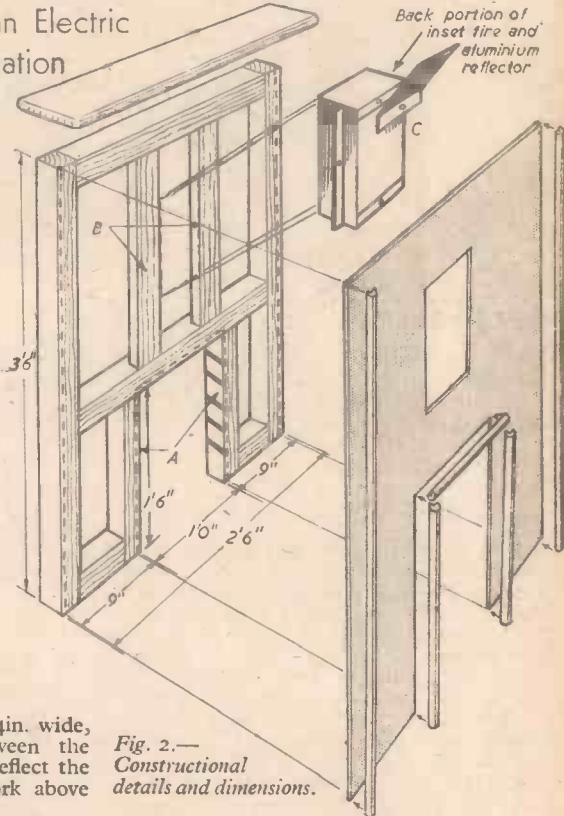

Fig. 2.—Constructional details and dimensions.
The fireplace itself consists of a framework of 2in. x 2in., cut to make up the dimensions shown in Fig. 2. The pieces are screwed together with 3in. x 10 screws as shown, those on the outside being well countersunk, filled with plastic wood and smoothed off. The two 18in. lengths (A) are slotted 3in. apart at an angle of 45 deg. These slots are 3/4in. x 1/2in. deep and are required to take five strips of hardboard 1ft. 0 1/2in. long by 3in. wide to form a ventilator.